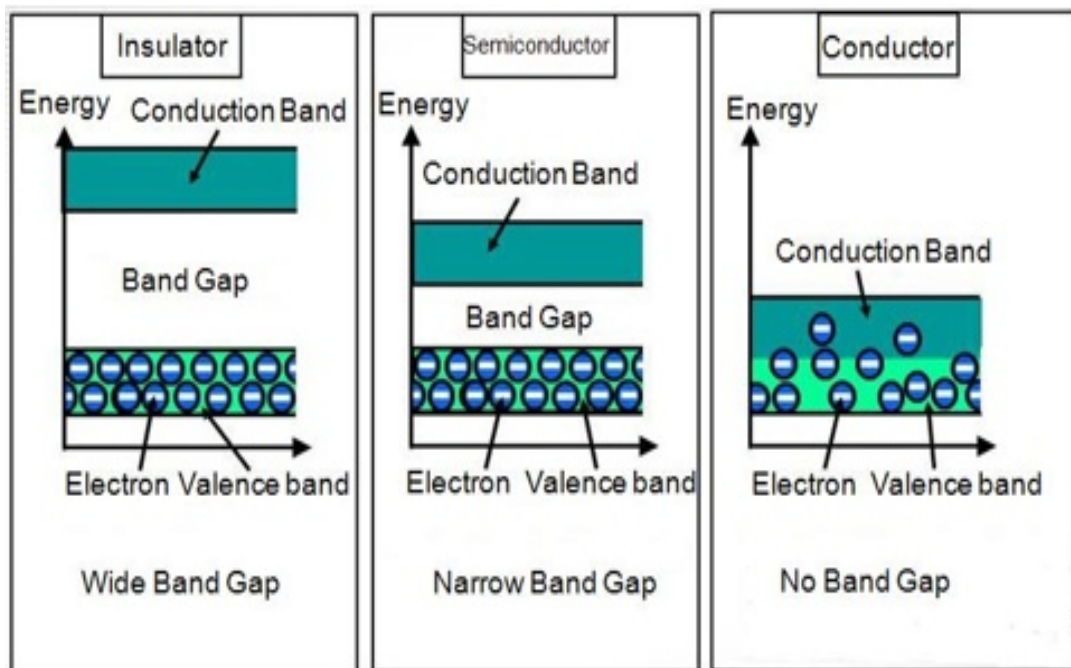

Figure 11.2. Conductors, insulators and semiconductors
5. With the help of the scheme depicted in Figure 11.2 explain the difference between conductors, insulators and semiconductors.